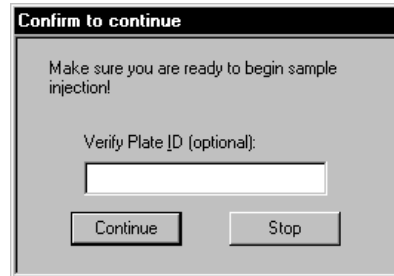

Figure 4-6. The Confirm to continue window with optional plate ID verification.
3. Follow the instructions on the instrument displays to load the clean water tank. After the tip rinse, the Confirm to continue window appears (figure 4-6).